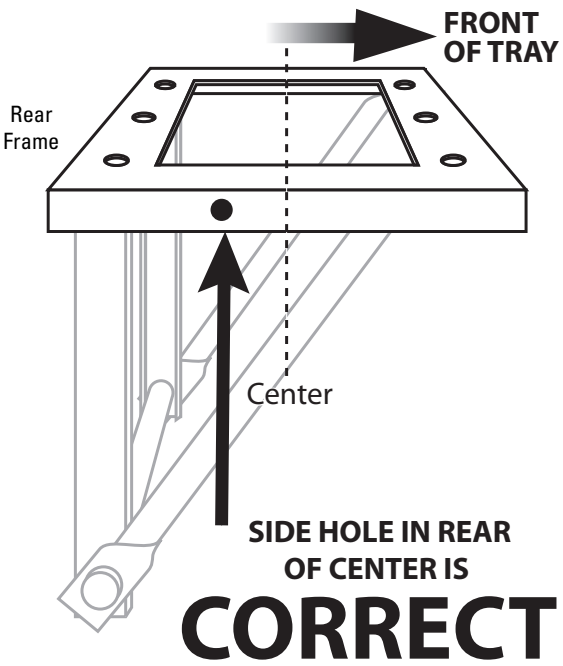

Figure 1
A. The rear axle attaches to the rear section of the rear frame. **Double check the rear frame placement before assembling to the tub.** As shown in Figure 1 , the side holes on the rear frame must be towards the front of the bed. Please reference the front and rear labels on the backside of the rear frame to confirm correct placement.